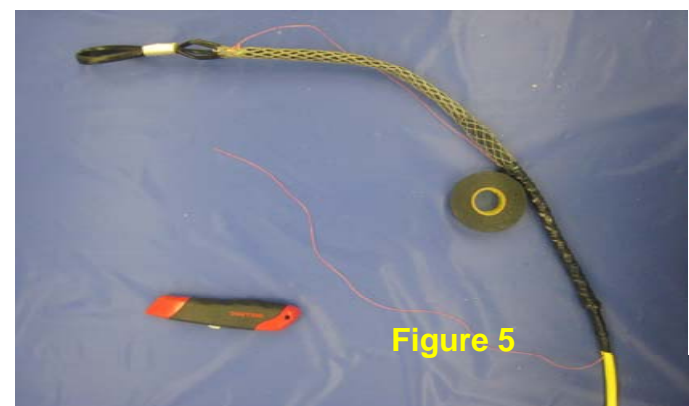

Figure 5
6. Tie one end of the saved rip cord to the pulling grip cage (just below the pulling eye). Beginning just below the friction tape and wire mesh, wrap electrical vinyl tape in an overlapping fashion as you move towards the pulling eye. See Figure 5.